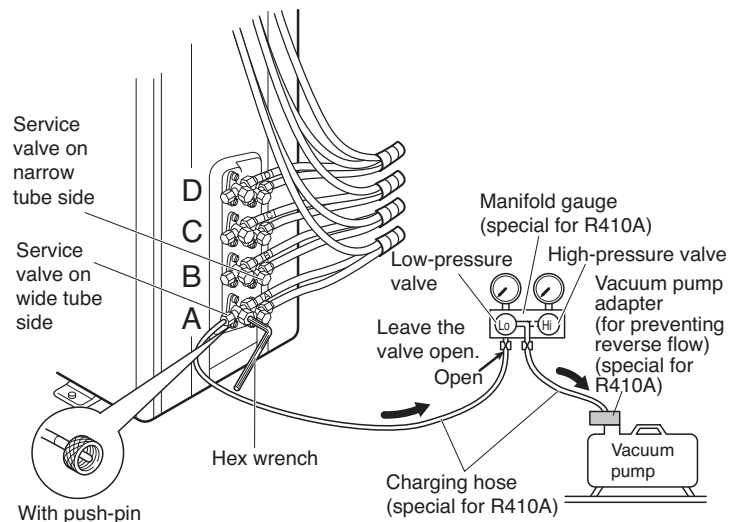

Fig. 20
- (1) Check that each tube (both narrow and wide tubes) between the indoor and outdoor units have been properly connected and all wiring for the test run has been completed. Note that both narrow and wide tube service valves on the outdoor unit are kept closed at this stage.
- (2) Using an adjustable wrench or box wrench, remove the valve caps from the service valve on both narrow and wide tubes.
- (3) Connect a vacuum pump and a manifold valve (with pressure gauges) to the service port on the wide tube service valve. (Fig. 20).